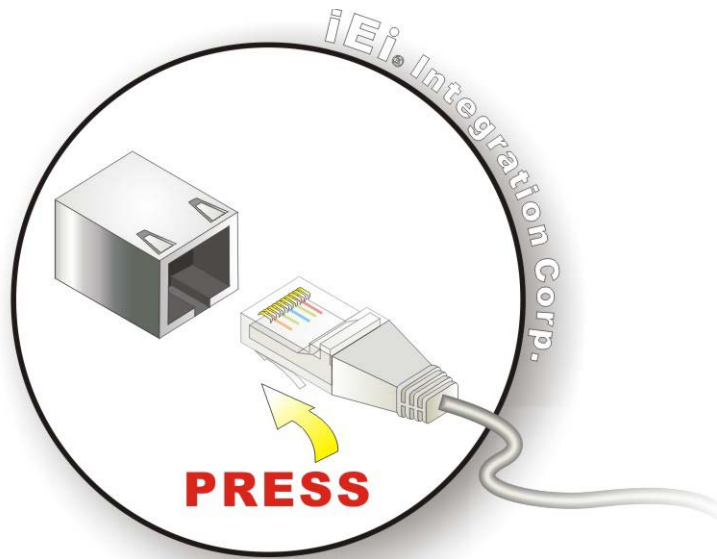

Figure 4-10: LAN Connection
Step 2: **Align the connector.** Align the RJ-45 connector on the LAN cable with the RJ-45 connectors on the NANO-SE-i1. See **Figure 4-10**.